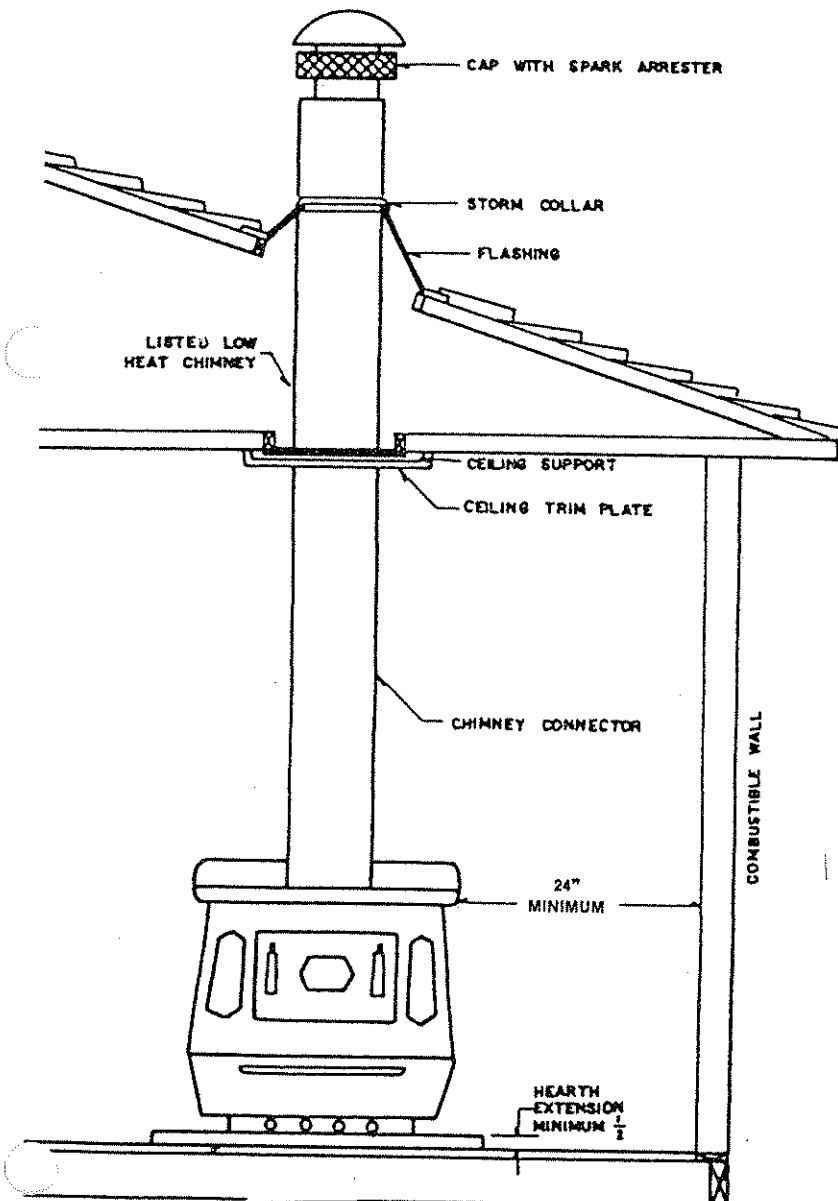

Fig. 4
8. Measure the distance from the ceiling to the top of any combustible material. If required, trim the top of the joist shield so that it will clear any combustible material when installed in step 11. Note that the joist shield may extend completely through the roof on some installations and may require trimming, only to allow the proper positioning and attachment of the roof flashing and storm collar. See Fig. 4.